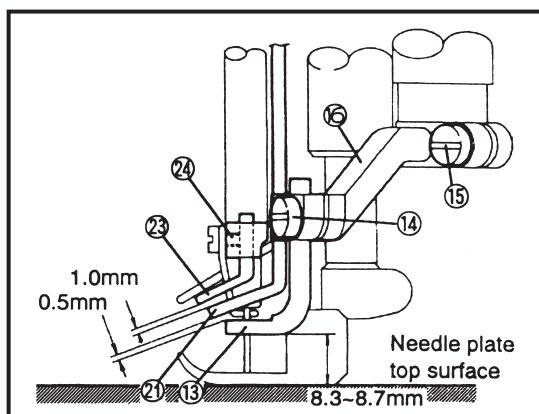

Fig.36
At the position, the thread is caught smoothly by thread hooking part when spreader comes to extreme right, tighten screw ②②. (Fig.36)
Set the hole of Top Cover Thread Eyelet on the extension line of slot of Top Cover Thread Guide, then tighten screw 24. (Fig.36)